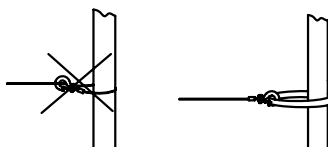

Figure4
11. Never turn over the wire rope to hook the wire rope. Or, it will damage the wire rope. You should use a nylon belt (See figure 4)